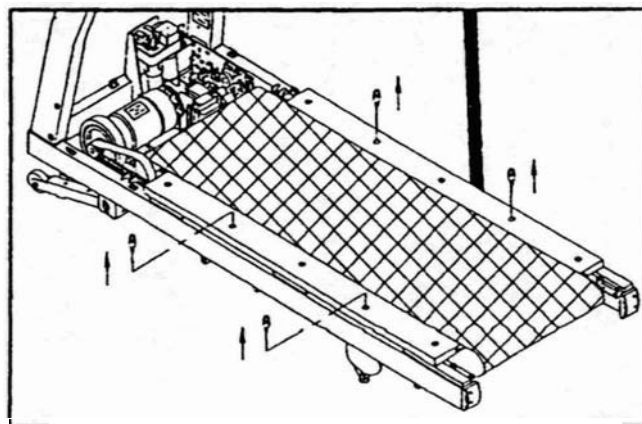

Fig.8
9.Remove four screws with bushings on the running deck. (see Fig.8)